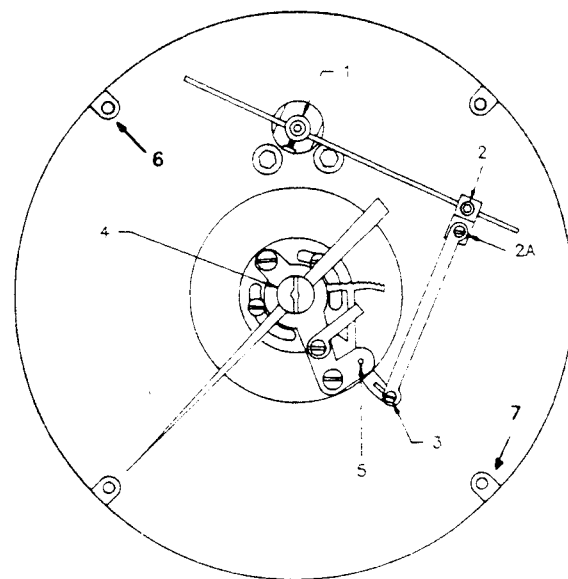

FIG. 16 INDICATOR ASSEMBLIES
5. Set movement; if movement is not clean, immerse in cleaning solution. Align movement in case by projecting a line through top left and bottom right dial mounting screws (Fig. 16, points 6 and 7) and resting extreme lower edge of brass bushing in sector gear (Fig. 16, Point 5) on that imaginary line. Proper hairspring tension is obtained by disconnecting gear sector from pinion (after unfastening movement linkage arm) and unwinding the spring (counterclockwise) approximately 1 turn; engage sector to pinion and release (pinion should rest at upper spline of sector). Refasten to linkage; point 3 should be in the center of sector slot, and point 2 should be approximately .960" (for 3" and 4-1/2" indicators) or 1-3/4 (for 6" indicators) from point 1.
6. Apply 50 percent of full-scale differential pressure to the high pressure connection, with the low-pressure connection left open to atmosphere. A line drawn thru points 1 and 2A should be parallel to a line drawn thru points 3 and 4. (See Fig. 16). Alternately, a line from point 1 and 2 should be at 90° to a line from point 2 to 3. DO NOT change these angles significantly once they are set.
12. If fast at 80%, slow at 20% and below zero, move sector gear linkage (See Fig. 16, Point 2) out. If slow at 80%, fast at 20%, and above zero, move linkage in. Only very slight movements are required.
13. If indicator reads correctly at 20%, 50%, and 80% but above zero, apply more tension on the hairsprings, or adjust movement counterclockwise; if below zero, decrease tension or adjust clockwise. (Disconnect the linkage on Fig. 16 at Point 2, rotate the sector gear until clear of the pinion gear; then, by rotating the pinion gear slightly, increase or decrease the tension as needed, clockwise to increase and counterclockwise to decrease (See #5).